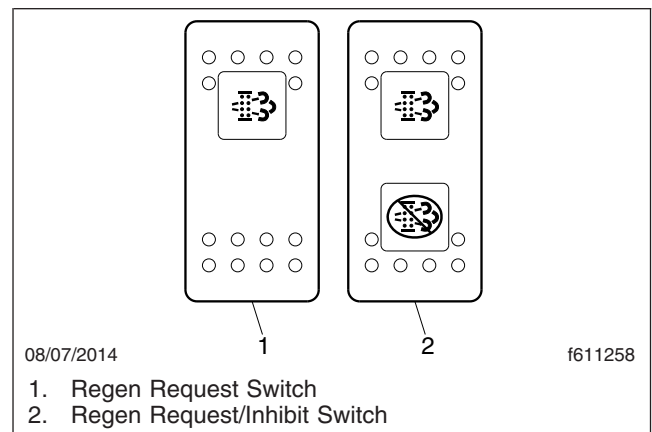

Fig. 12.1, Aftertreatment System Regen Switches
The regen request switch, located on the dash, is used to initiate a parked regen. See Fig. 12.1, item 1. The function of the switch varies by the engine make and model in the vehicle. See the engine operation manual for switch operation details.
Some vehicles may be equipped with a regen request/inhibit switch. See Fig. 12.1, item 2. To stop